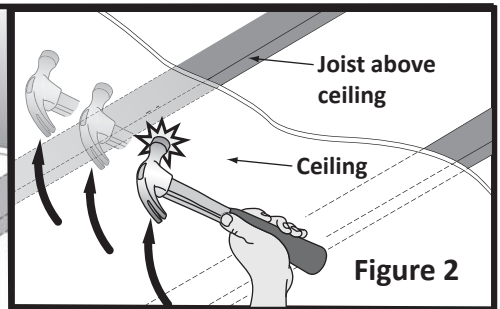

Figure 2
Step 2: Using a hammer, tap around your mark to find a ceiling joist/beam and mark the spot (Figure 2, 3, & 4). Then, move to the right or left approximately 18"-24" and tap around to find a second ceiling joist/beam (Figure 2 & 3).